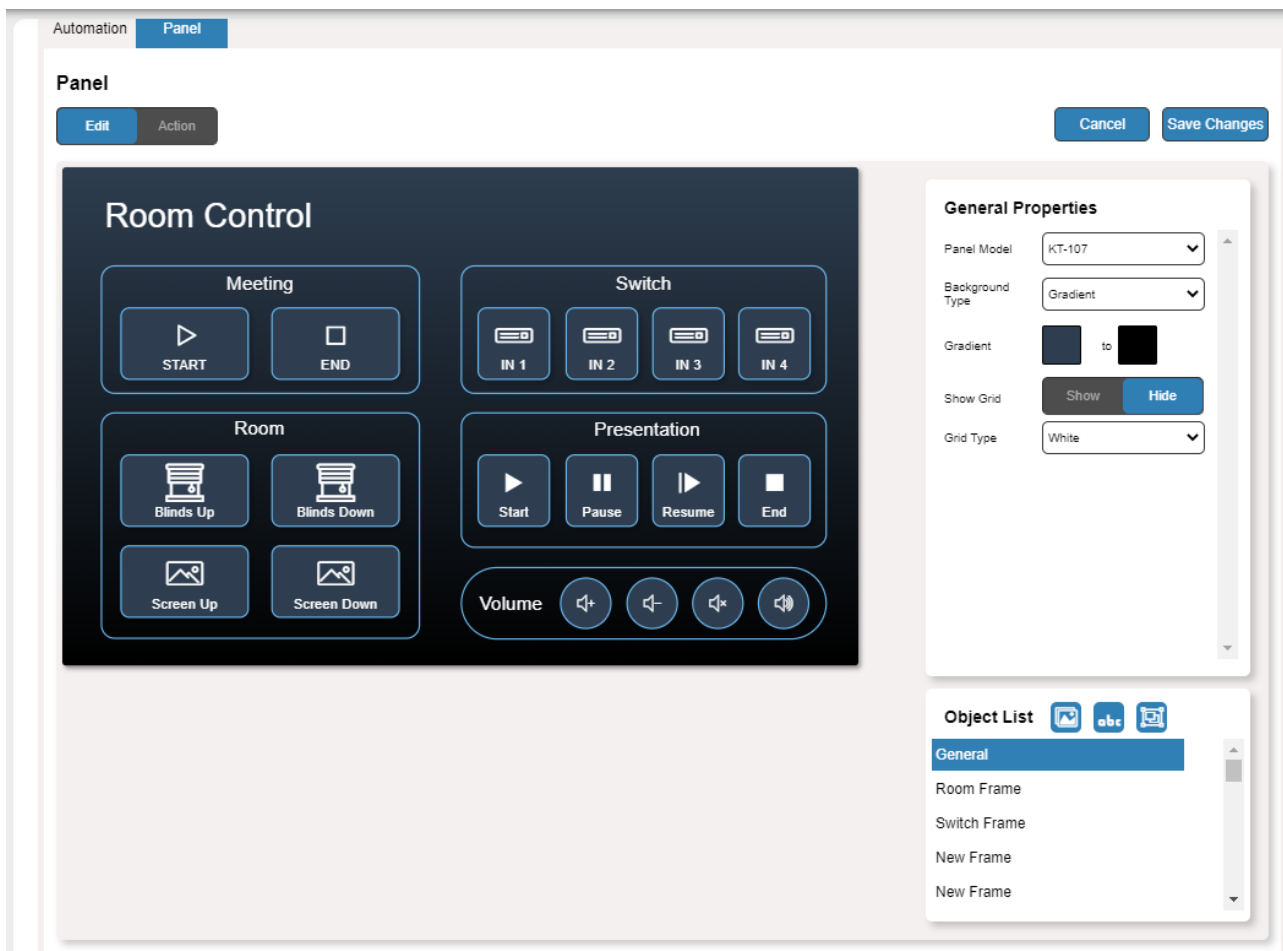

Figure 44: Automation Page – Editing Panel Window
3. Click **Edit**. Edit Panel window appears (see Figure 44).